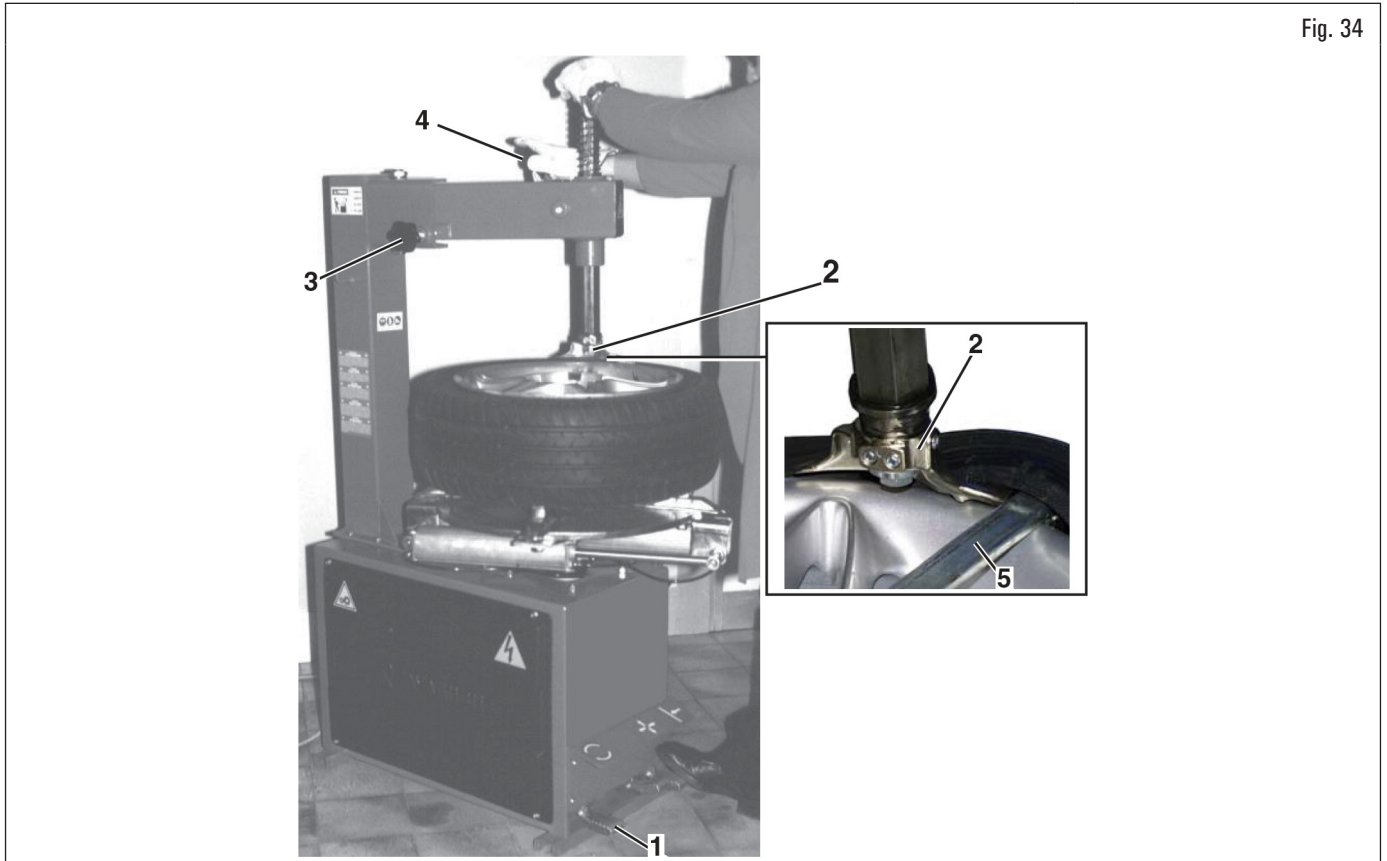

Fig. 34
After clamping the wheel, the tyre is demounted by following the instructions given below, with reference to Fig. 34:
1. press the rotation pedal (Fig. 34 ref. 1) to rotate the wheel clockwise until the valve stem reaches "1 o'clock" position;
2. place the disassembly/assembly toolhead (Fig. 34 ref. 2) on the rim edge through the knob (Fig. 34 ref. 3);
3. lock it in position acting on lever (Fig. 34 ref. 4);
4. adjust the tangency point of the toolhead (Fig. 34 ref. 2) to the rim through the knob (Fig. 34 ref. 3);
5. use the same lever (Fig. 34 ref. 5) to lift the bead onto the right end of the toolhead and position it parallel with the rim plate at the same time pressing on the side of the tyre at "6 o'clock" position;
6. press the rotation pedal (Fig. 34 ref. 1) to turn the wheel clockwise until the whole bead is removed from the rim. During the rotation of the wheel, the bead lifting tool slides away from the toolhead moving onto the rim edge;